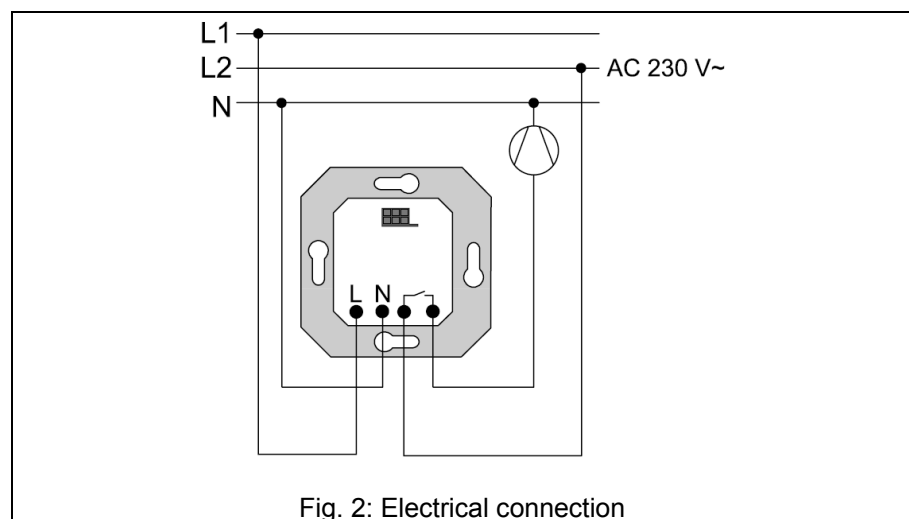

Fig. 2: Electrical connection
- Connect the insert (Fig. 2).